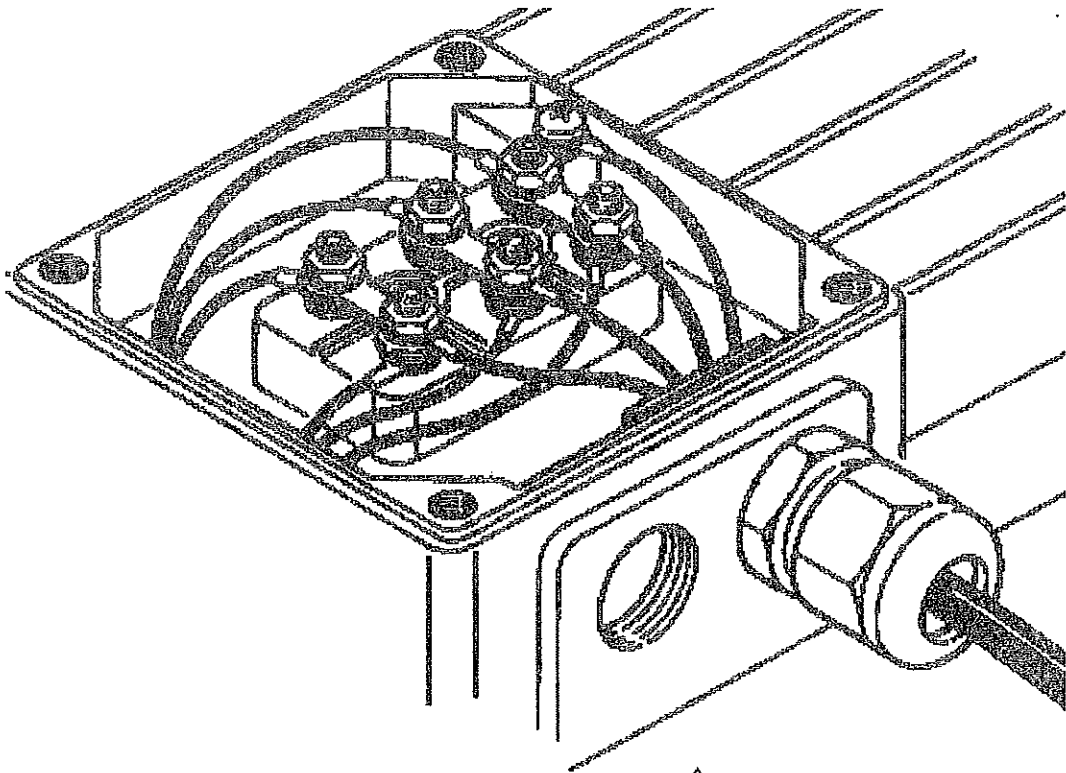

Fig. 4 / Bild 4
- In the case of equipment with triphase motors, the motor winding interconnection bridges must be suitably positioned (see figs. 4 - 5, page 40).